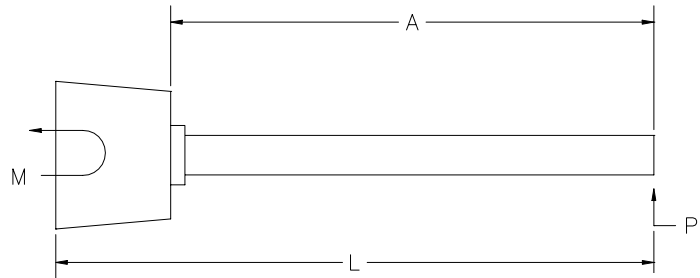

Figure 2
A force (P)(Fig. 2) shall be applied at a distance (L) from the bottom of the base in order to produce a moment (M). All bases must reach a moment capacity of 10,750 ft. lbs. without breaking, cracking or rupturing in any manner.